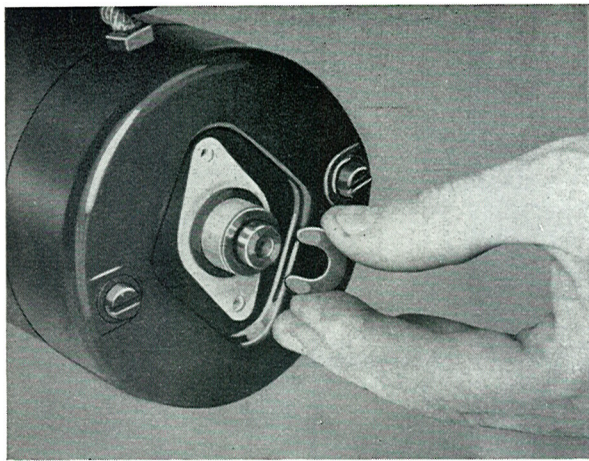

Fig. 3-32. Removing the lock washer
2. Lift off the lock washer and adjusting washers as shown in Figs. 3-32 and 3-33.